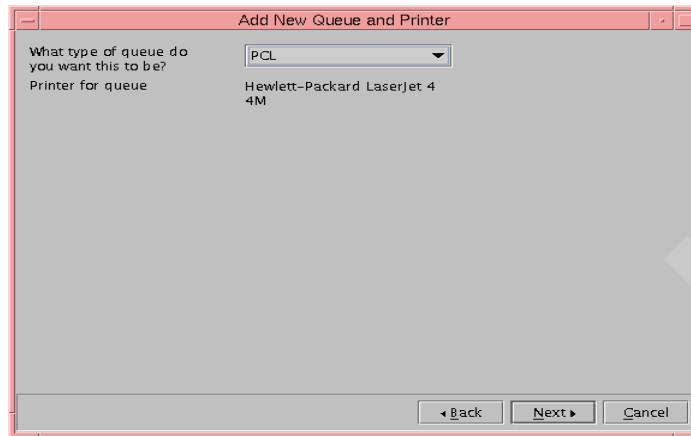

Figure 77. JetDirect-attached printer data stream
6. We selected the data stream for which we were creating this queue from the list shown in Figure 77 and clicked **Next**.